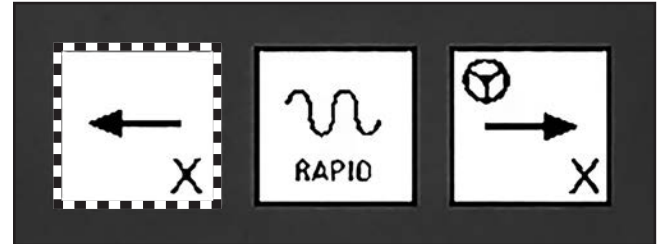

Figure 77. X-axis traverse keys.
3. On MCP axis traversing keypad, press and release left X-axis traverse key, as shown in **Figure 77**.